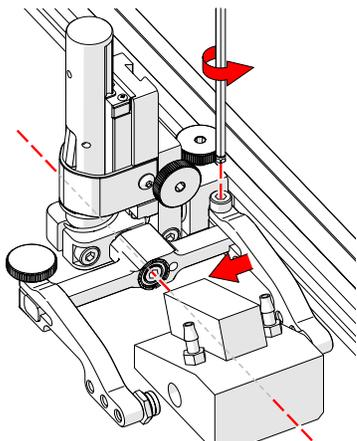

Fig. 126 - Adjust inner arm
2. Position the wedge on the inner probe holder arm (Fig. 126).
TIP: The probe holder yoke can accommodate many different probe and wedge sizes of varying widths. It is best to centre the wedge with the yoke's pivot axis. This can reduce wedge 'rocking' when scanning. Position the inner probe holder arm accordingly (Fig. 126) using the supplied 3 mm hex driver (Fig. 42).